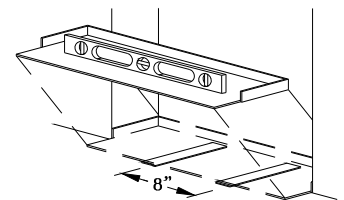

Figure 3:
- Place sillpan into the opening and determine leveling (Figure 3) that must be done prior to installation.